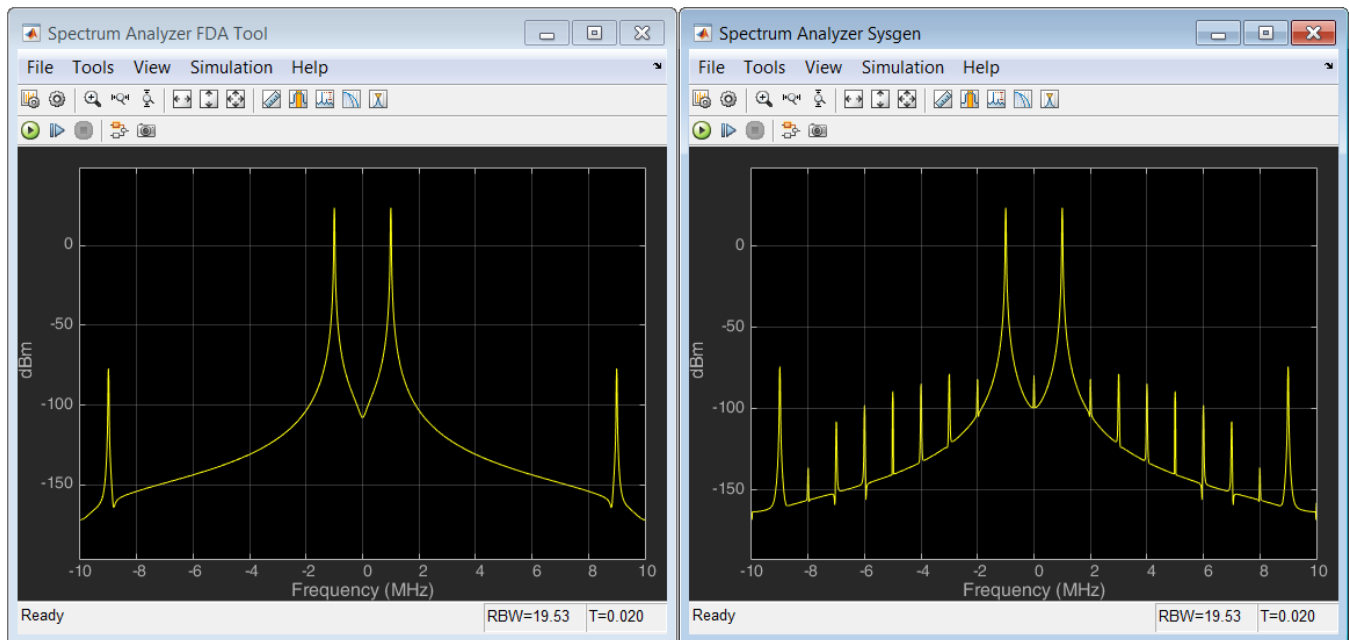

Figure 13: FIR Compiler Results
17. Click the **Run** simulation button  to simulate the design and view the results, as shown in Figure 13: FIR Compiler Results.